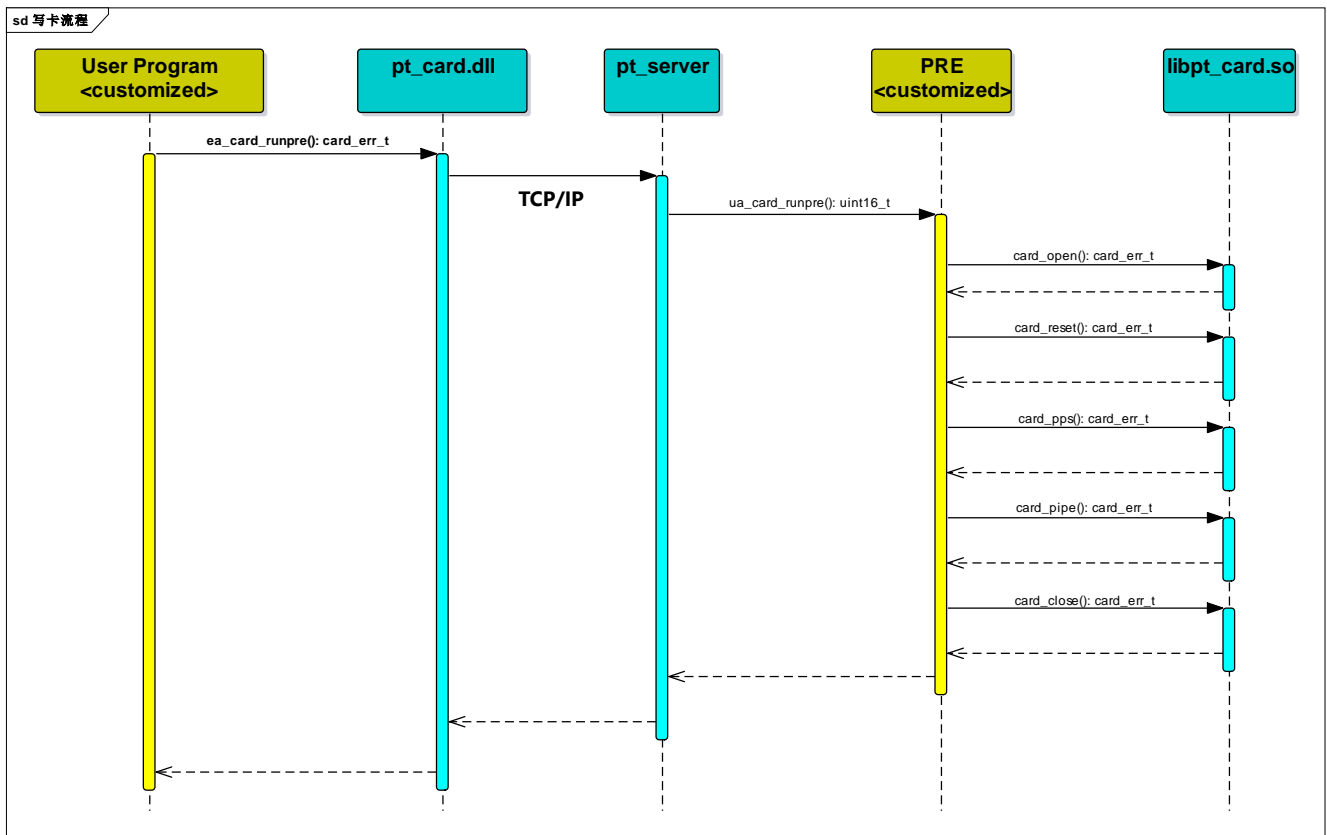

Figure 3.5 Card Writing Process
- Running process: The user program completes the personalized writing of the chip by calling the interface function of pt_card.dll, as shown in Figure 3.5.